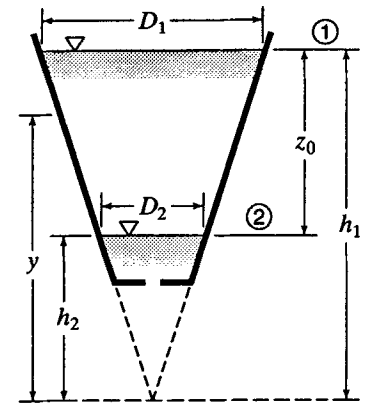

Figure X12.2.3
12.2.4 The cone-shaped tank in Fig X12.2.3 has the shape of the frustrum of a cone with a 0.2-m^2 orifice ($C_d = 0.60$) in the bottom. Given $D_1 = 12\text{ m}$, $D_2 = 5.6\text{ m}$, $z_0 = 10.4\text{ m}$, and that the water level outside the tank is constant at section 2, how long will it take the water level in the tank to drop from section 1 to section 2? (Note: The tank diameter = ky , and $y = z + h_2$, where z is the variable distance between surface levels.)